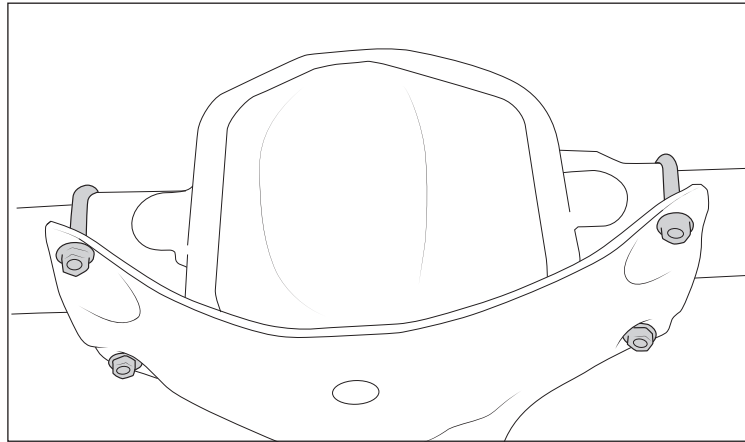

Figure 1
1. Place the U-Bolts over the rear axle and through the differential slider. Loosely install the M10 nuts (fig. 1).